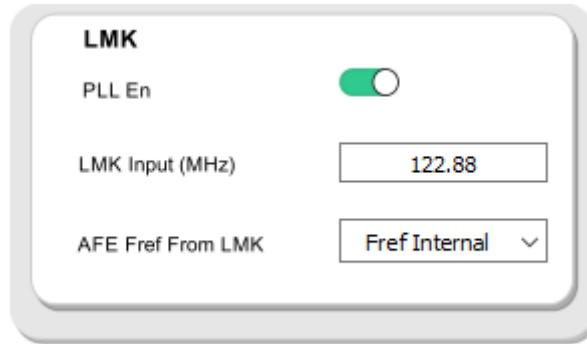

Figure 3-11. Setting LMK Parameters
4. Set the LMK parameters on the bottom left corner like Figure 3-11.